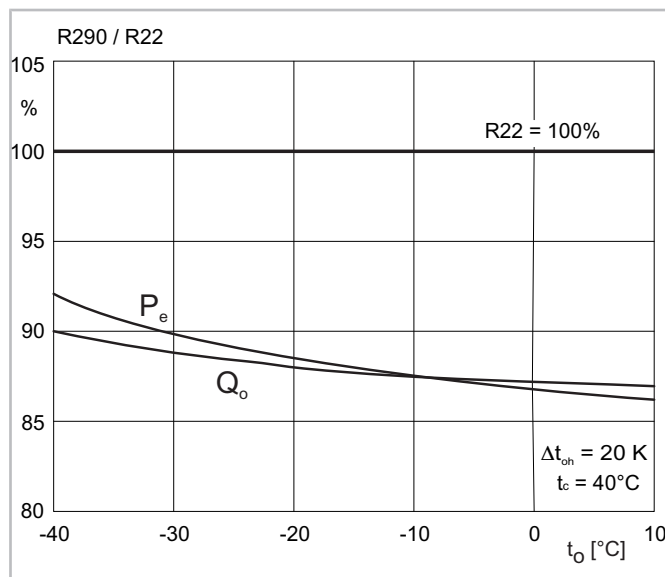
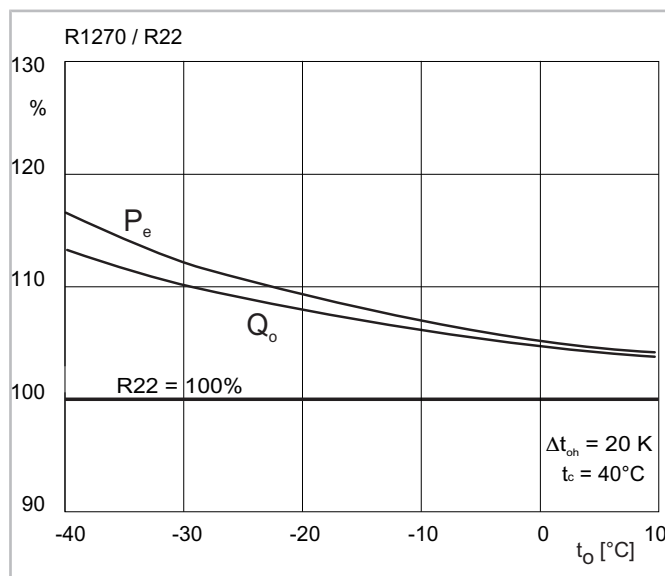

Fig. 7: Performance comparison R290/R22 for suction gas cooled semi-hermetic reciprocating compressors
Fig. 8: Performance comparison R1270/R22 for suction gas cooled semi-hermetic reciprocating compressors
- In terms of their coefficients of performance (COP), R290 and R1270 differ only slightly from R22 (see figure 7, page 27 and see figure 8, page 27) and are thus better suited than R404A/R507A for medium-temperature and air-conditioning applications.